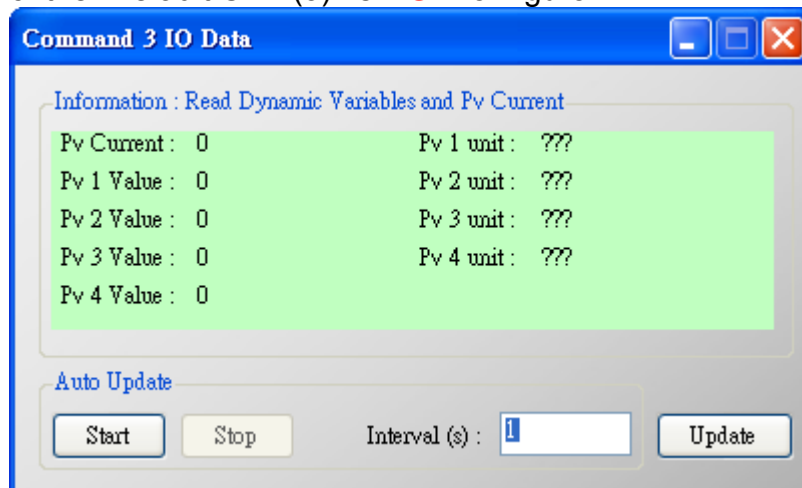

Figure 2-7 The I/O Data screen of the "Default CMD(3)" => NG
(7) The I/O Data of the "Default CMD(3)" is **NG** like Figure 2-7.